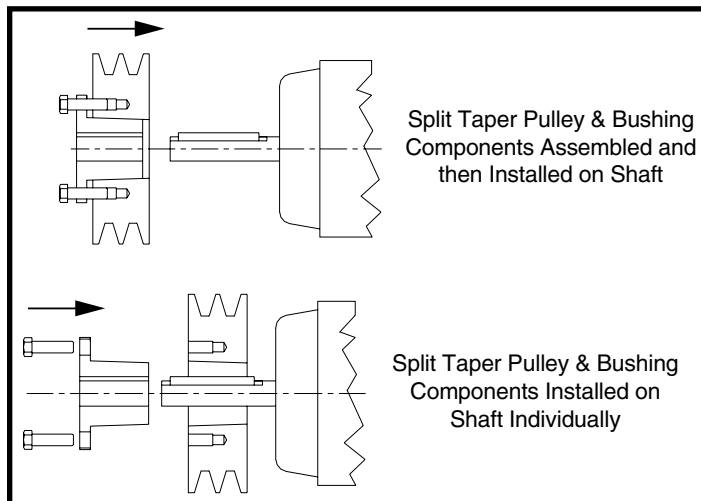

Figure 6. Split Taper Bushing & Pulley Assembly Options
- The bushing may first be loosely installed into the split taper bored pulley, and then the assembly slid onto the shaft. For heavier pulley's, it may be easier to either first slide the bushing onto the shaft and then slide the pulley onto the bushing; however, if the bushing barrel has collapsed, it must be wedged open. See Figure 6.